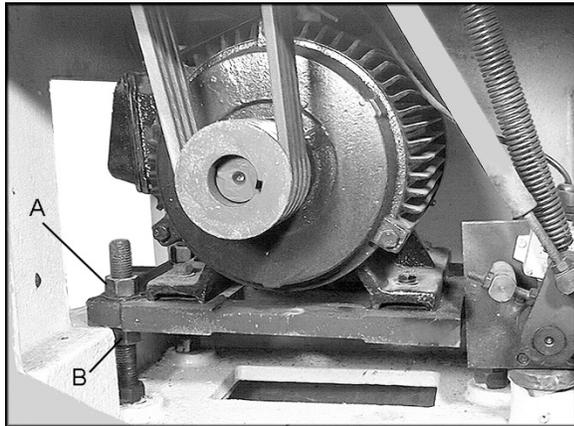

Figure 14-6: Belt Adjustment
3. Loosen upper hex nut (A, Figure 14-6). Place scrap piece of wood under motor to act as lever. Lift motor up and block temporarily.
6. Tension belts by loosening lower nut (B, Figure 14-6) and tightening upper nut (A, Figure 14-6) until light finger pressure causes approximately 3/4" deflection on each belt.